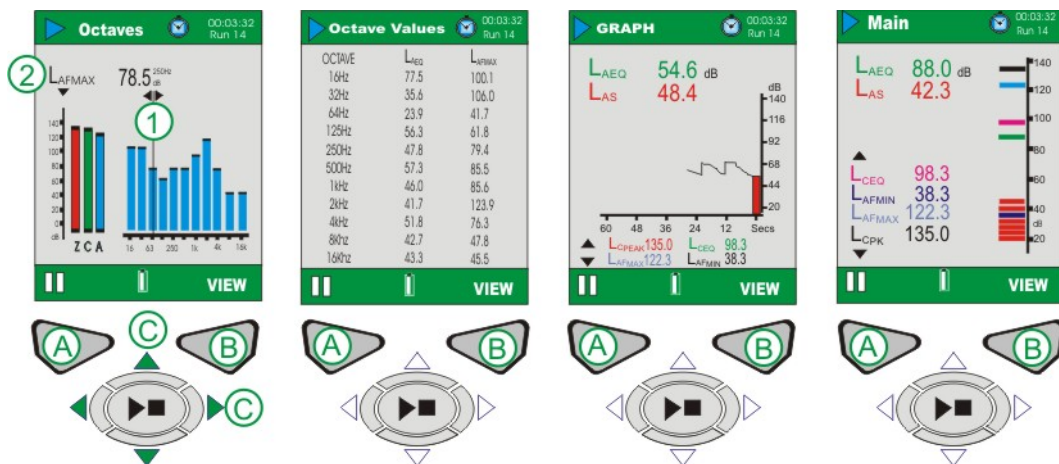

Figure 14 CEL-62XB & C Main Run Screens
**CEL-62XB & CEL-62XC (Refer to Figure 14).**
The CEL-62XB and CEL-62XC provides two additional octave screens shown in Figure 14. Use the View key (B) to toggle the four available screens. Use the left/right cursor keys (C) to move across the frequency bands (1) when in graphical view. Use up/down cursor keys (C) to toggle between LMAX and LEQ parameters (2).